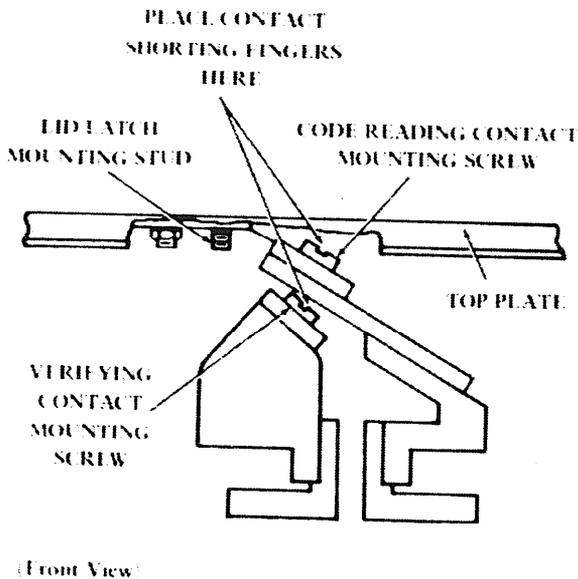

Figure 1. Tape Reading Contact Mounts
3.03 Install the TP333324 contact shorting assembly between the verify and code reading contact mounting screw heads and the reader top plate above the screw heads (Figure 1). **Remove** the nut and washers from the right hand lid latch mounting stud. Place the TP333335 position bar on the stud and over the contact shorting assembly. replace the nut and lockwasher only, Hold the position bar down firmly on the contact shorting assembly while tightening the nut.